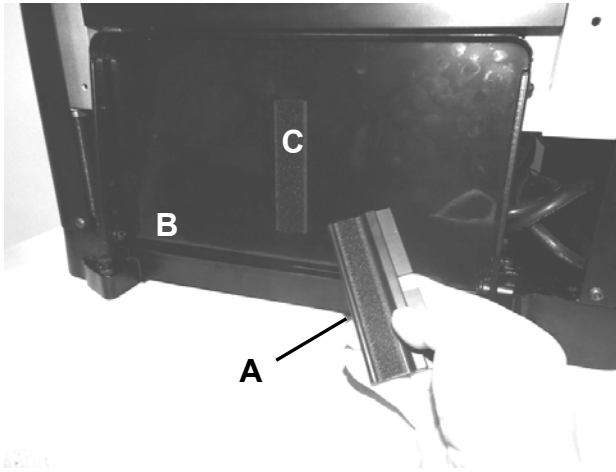

FIG 6
1. The knife removal tool (A) is supplied with your planer and attached underneath the outfeed table (B) with Velcro (C), you can store the tool when it's not in use. SEE FIG 6 on the following page.